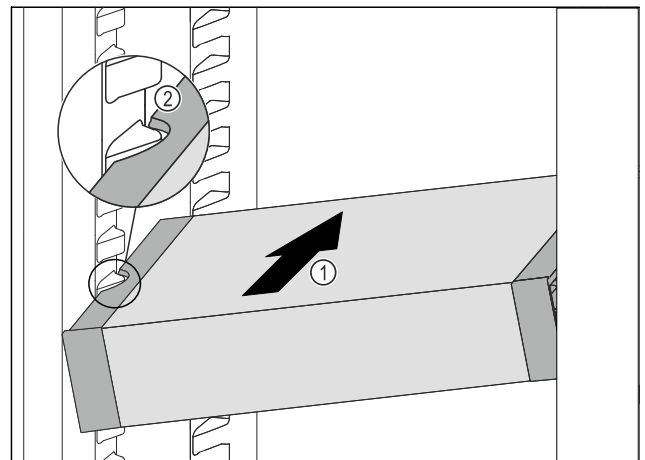

Fig. 121
- ▶ Insert the VarioSafe into the refrigerator compartment at an angle Fig. 121 (1) until the recesses in the side Fig. 121 (2) of the VarioSafe are at the level of the support rib in the refrigerator compartment.